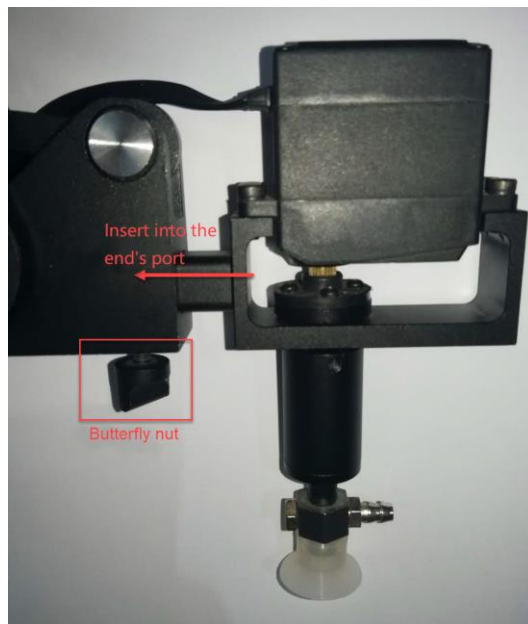

Figure 5.8 Install a suction cup kit
Step 2 Insert a suction cup kit into the end's port, and fasten it with a butterfly nut, as shown in Figure 5.8.